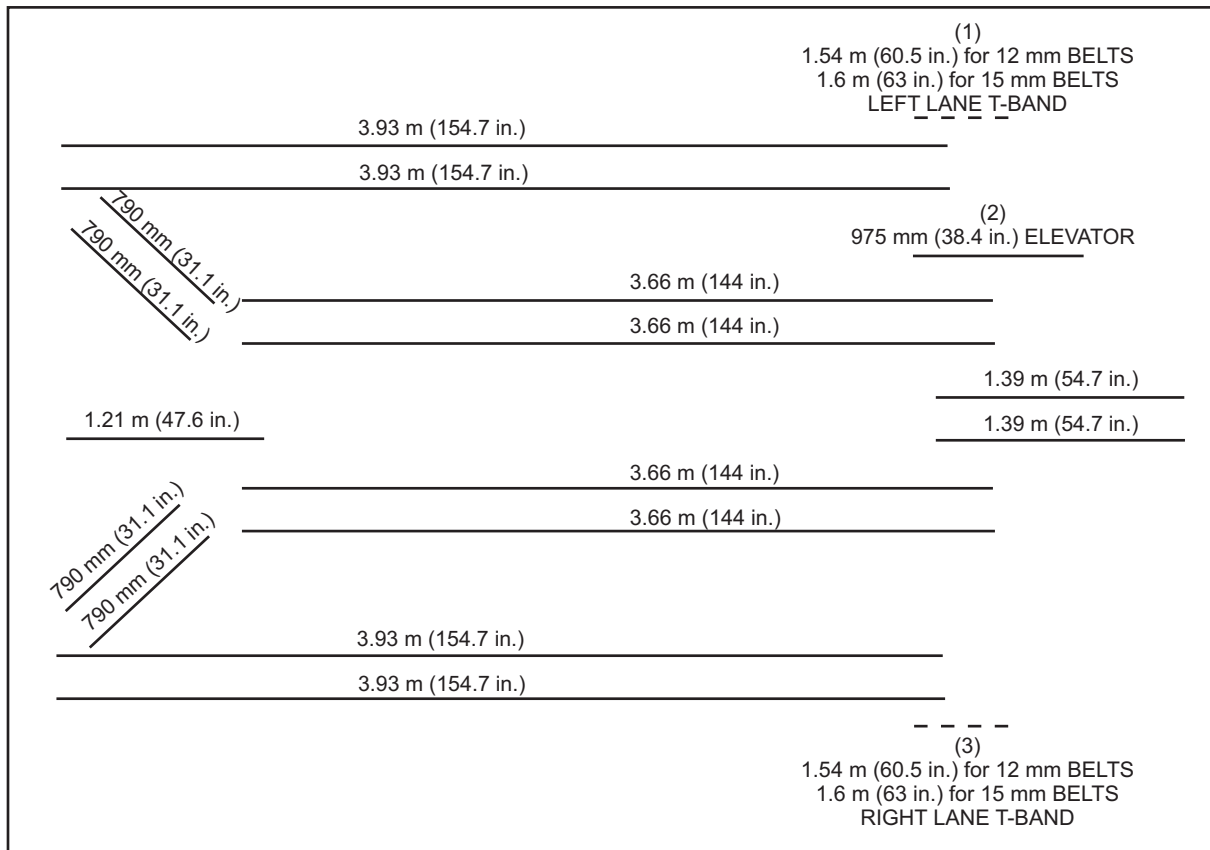

Figure 8-4. Round Belt Lengths
1. Figure 8-4 gives nominal lengths of all distributor belts. The dotted lines represent belts that are not factory installed.